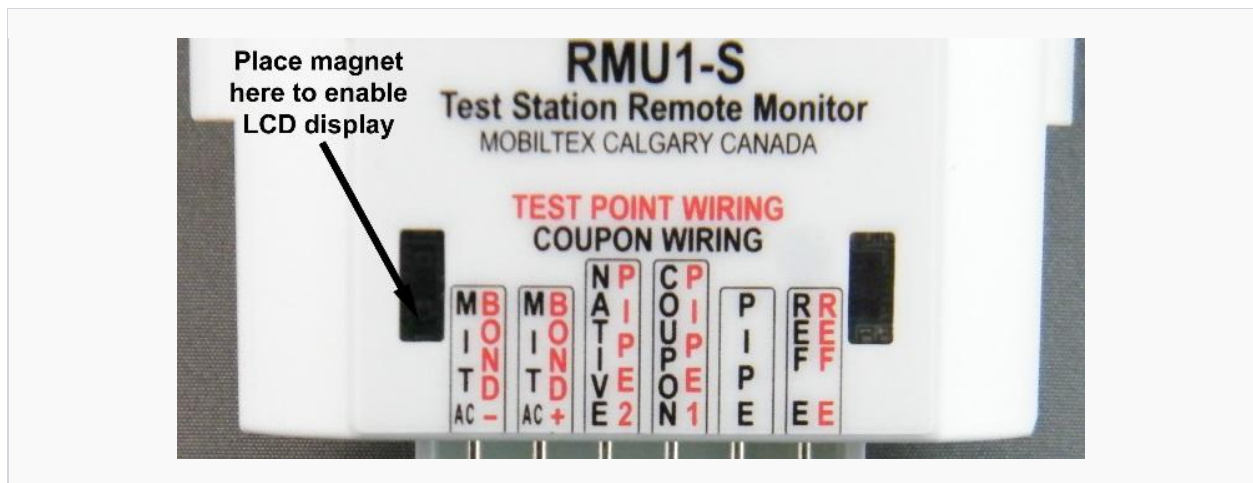

Figure 35 LCD Enable Magnet Location
- If the proximity sensor is not enabled, the LCD will only display for the first minute after the unit is powered on. To enable the LCD display in this case, place the test magnet in the location shown in Figure 35.